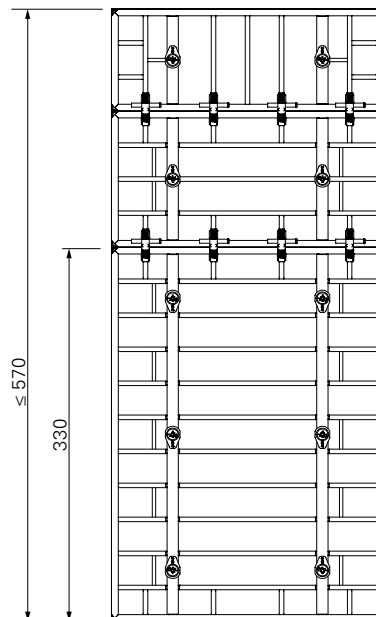

Fig. C12.01c
- H ≤ 5.70 m (Fig. C12.01c)
- on panel joint 330 – 120, install Alignment Coupler BFD (20) and Compensation Waler MAR 85 (21),
- on panel joint 120 – 90, install Alignment Coupler BFD (20).